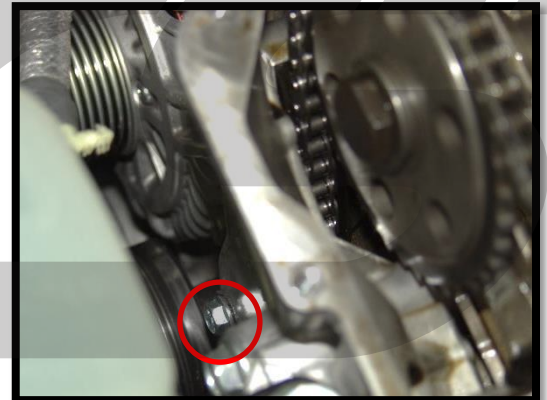

Figure 3h
- h) Looking down from the top of the engine, locate the timing chain rail blind plug in the side of the timing cover (red circle in Figure 3h). Remove the plug with a 10mm wrench.